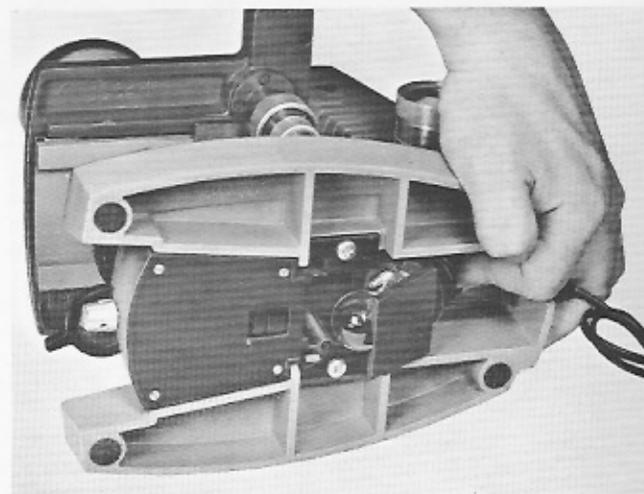

Figure 26. Changing Lamp in "In-Base" Illuminator
- b. **Changing Lamp (See figure 26).** The lamp is easily replaced by tilting the microscope over on its side, swinging the lamp socket out on its pivot as illustrated. The lamp is of the pre-focus type and is removed by pushing down and turning slightly counterclockwise to disengage the slots from the pins. A special tool, AO #1036-856, consisting of a fiber tube with a